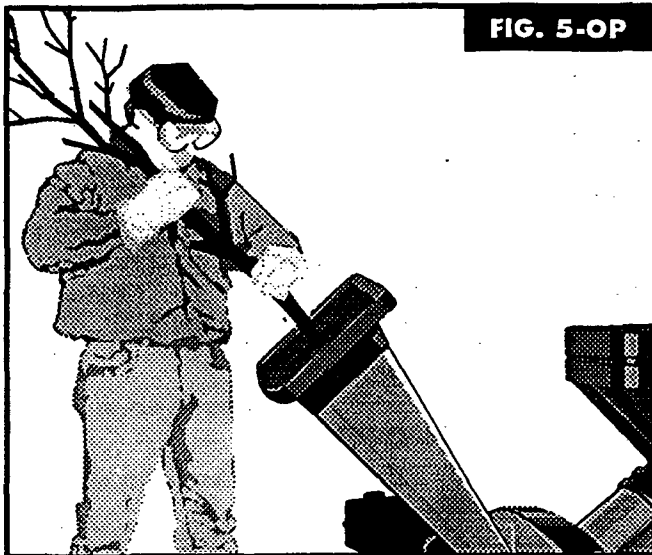

FIG. 5-OP
- Bulky material, such as stalks or heavy branches (anything over 1/2" diameter, up to 3" in diameter), should be fed into the Chipper chute (See FIG 5-OP).